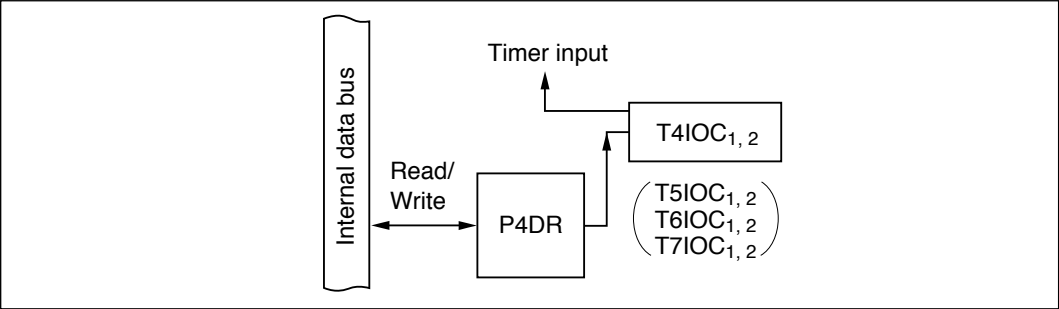

Figure 9-25 Input Capture Combined with General-Purpose Output (Modes 1 to 7)
(4) Timer Input Combined with General-Purpose Output (Modes 1 to 7): Figure 9-25 shows a block diagram illustrating the input capture function when combined with general-purpose output. Table 9-18 indicates register read/write data. An input capture pin can also function as an output port, in which case the output value is input to the timer.